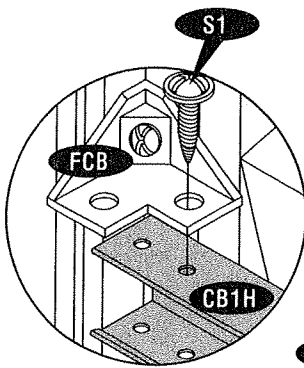

Fig.1
5. Fix the center band (**CB1H**) to the center band fitting (**FCB**) with (**S1**) screws. See fig.1. Fix the other end to the door column (**CDRA**). See fig.2.